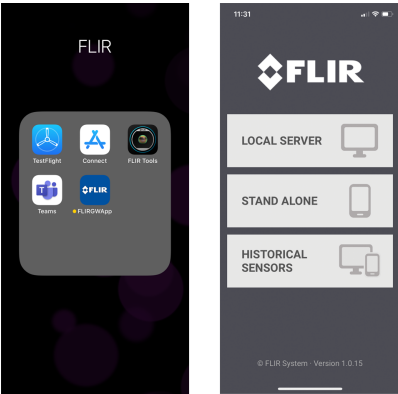

Figure 8.3 FLIR mobile app installed on mobile device (above, left) and opening screen (above, right).
1. After downloading the mobile app, as described earlier, you'll see the FLIR app on your mobile device, as shown in Figure 8.3 above.